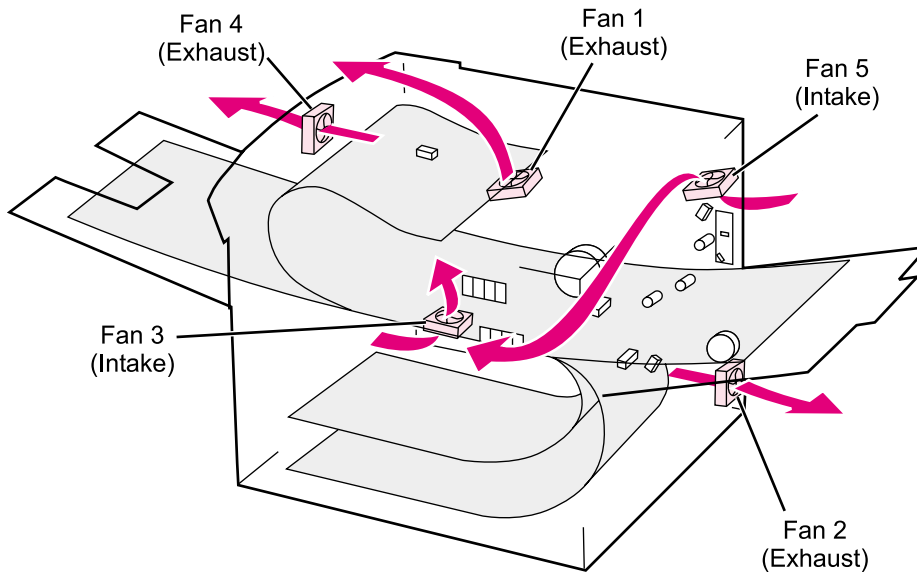

Figure 7-9 Fan Location and Airflow
3. Are the printer's fans on? (See figure 7-9 on page 596 to locate the fans.)	Note: Fan operation is significant since all fans are controlled by the printer's DC Controller PCA. When the printer is in PowerSave mode, the fans are off. Make sure that the printer is not in PowerSave mode. Press Go . Operational fans indicate: <ol style="list-style-type: none">1. AC power is present in the printer.2. DC power supply is functional (both 24V DC and 5V DC are being generated).3. DC Controller PCA's micro-processor is functional.